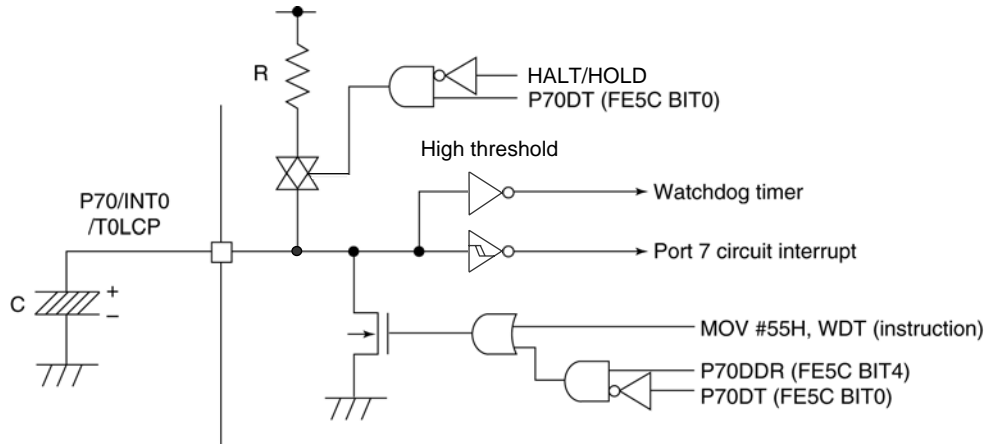

Figure 4.7.3 Sample Application Circuit with a Programmable Pull-up Resistor
- 3) The external resistor to be connected to the watchdog timer can be omitted by setting bits 4 and 0 of the Port 7 control register (P7:FE5C) to 0 and 1 and connecting a programmable pull-up resistor to the P70/INT0/T0LCP pin (see Figure 4.7.3).